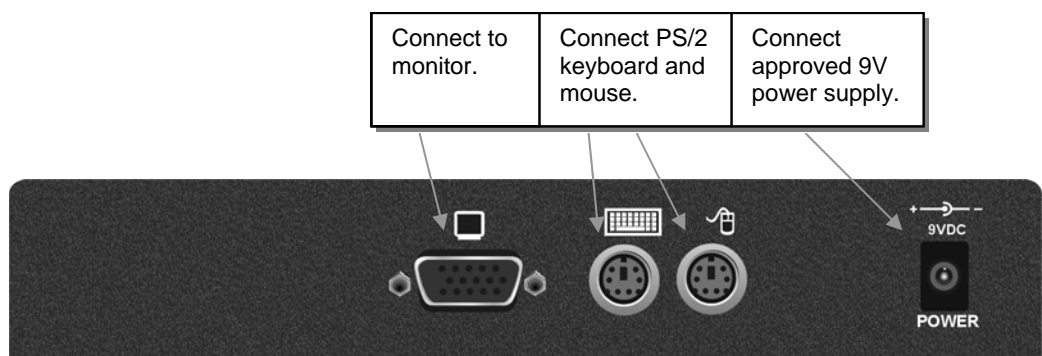
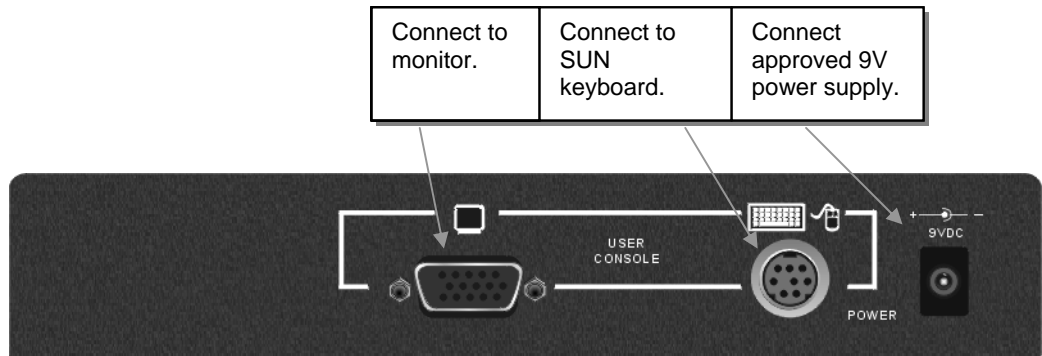
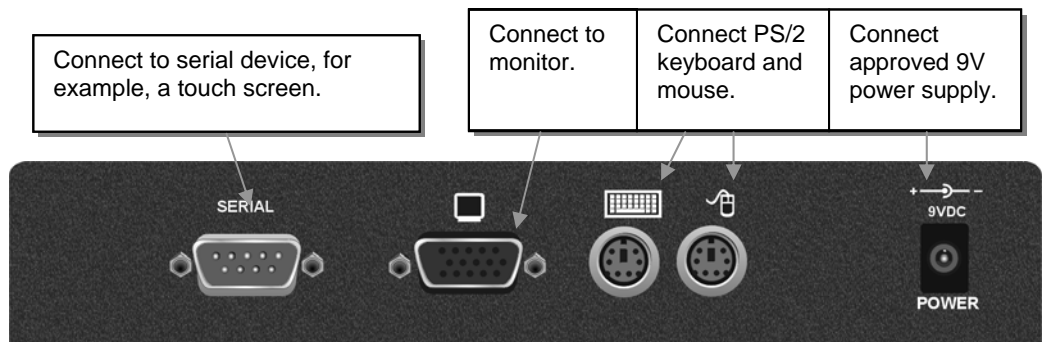

Figure 3 *SDLink Standard Remote Unit (SDLink/R - also supplied with SDLink1 and SDLink2 kits) – rear view*
Figure 4 *SDLink SUN Remote Unit (SDLink/RSU - also supplied with SDLink1/SU and SDLink2/SU kits) – rear view*
Figure 5 *SDLink Serial Remote Unit (SDLink/RS – also supplied with SDLink1/S and SDLink2/S kits) – rear view*
2. Connect your keyboard, monitor(s) and mouse to the Remote Unit as shown in Figure 3 (Standard), Figure 4 (SUN) or Figure 5 (Serial).